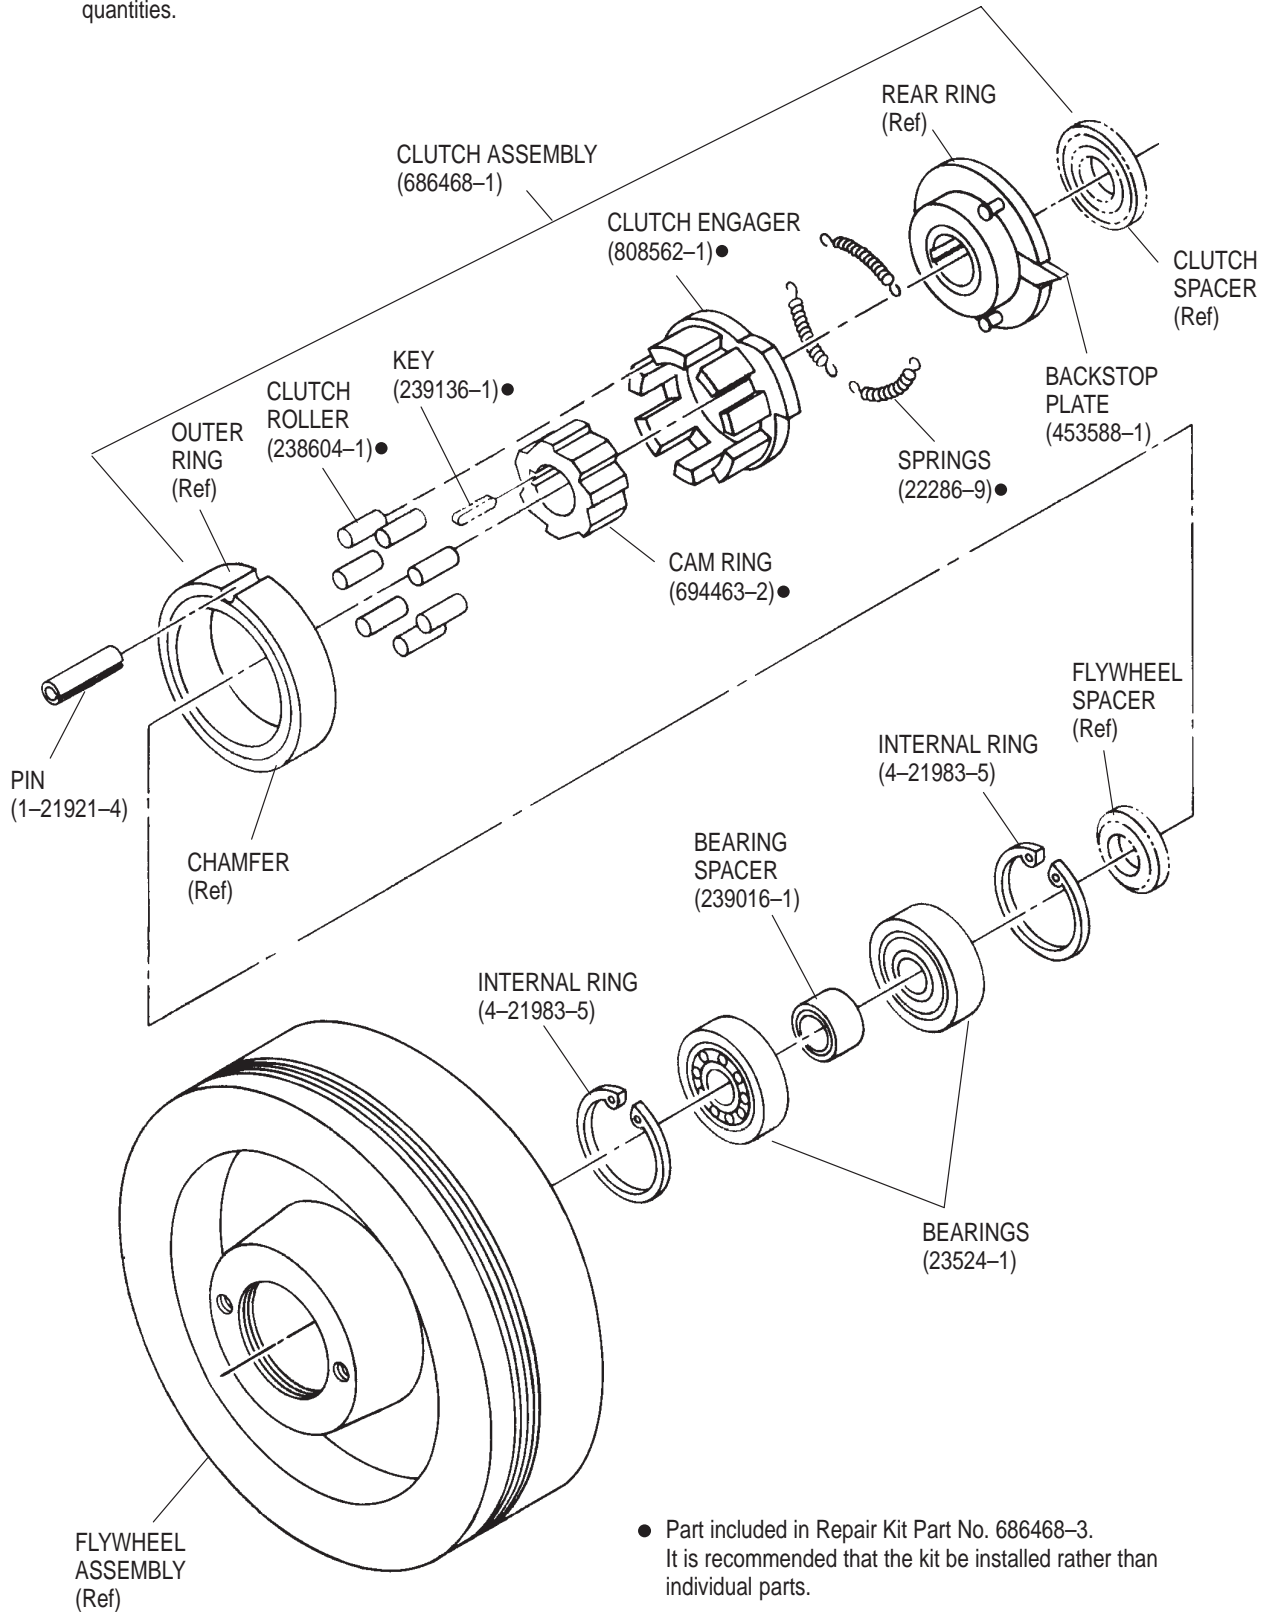

Figure 6-2. Flywheel Assembly Replacement
6.4. Clutch Assembly Replacement (Figure 6-2)
6.5. Flywheel Bearings Replacement (Figure 6-2)
- Added replacement part numbers and note for repair kit in Figure 6-2